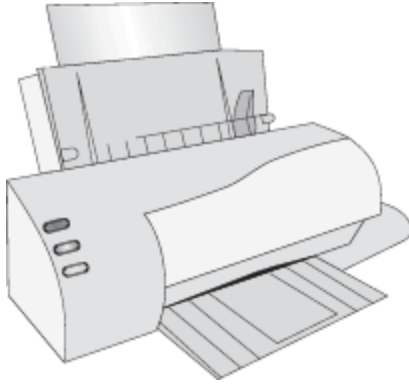

Figure 4.34 Ink-Jet Printer
Ink-jet Printer: The most common type of printer found in homes today is the ink-jet printer (see Figure 4.34). An *ink-jet printer* is a printer that places extremely small droplets of ink onto paper to create an image. Being a non-impact printer, it does not touch the paper while creating an image. Instead, it uses a series of nozzles to spray drops of ink directly onto the paper. Inkjets were originally manufactured to print in monochrome (black and white) only. However, the print head has now been expanded and the nozzles increased to accommodate cyan (C), magenta (M), yellow (Y) and black (K). This combination of colours is called *CMYK*. It allows for printing images with nearly Figure 4.34 Ink-jet Printer the same quality as a photo development lab using certain types of coated paper.